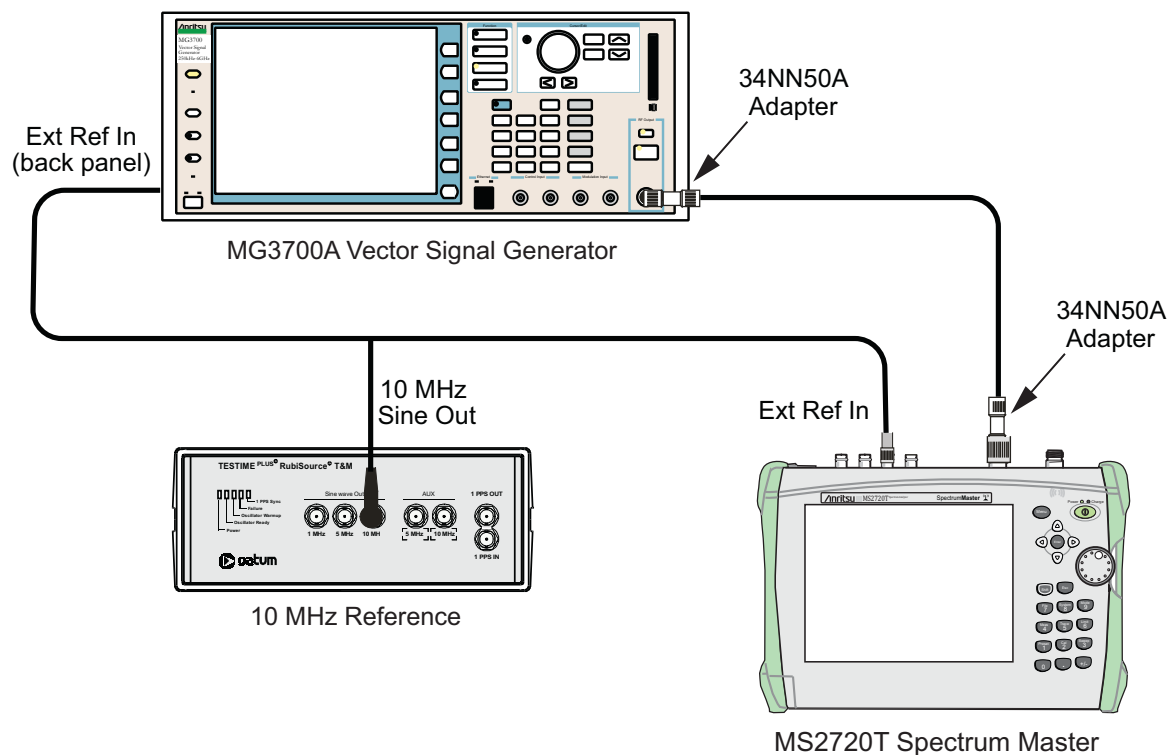

Figure 3-15. Mobile WiMAX Residual EVM Test Setup
1. Connect the 10 MHz Reference to the 10 MHz/5 MHz Ref Input of the MG3700A and the Ext Ref In of the MS2720T as shown in Figure 3-15.